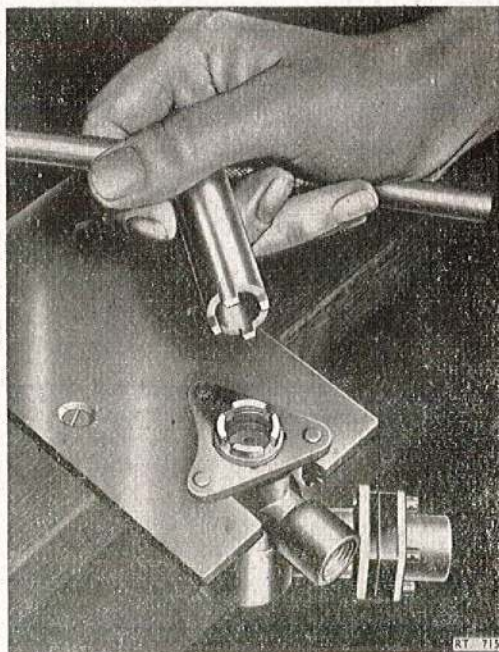
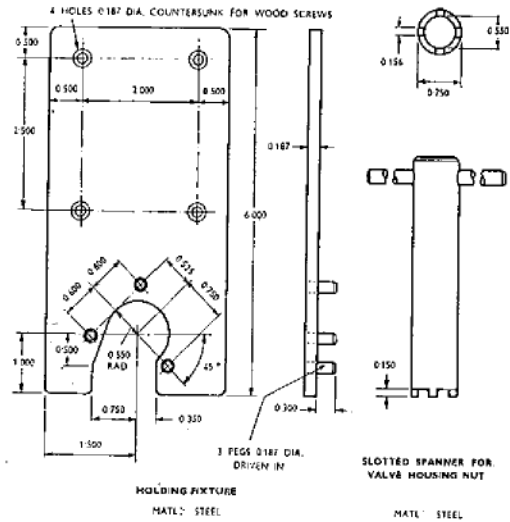

Fig. 3. Dismantling the electro-hydraulic valve
Fig. 4. Electro-hydraulic valve holding fixture
8. Fit the valve to a suitable dismantling rig as shown in fig. 3 and fig. 4, then remove the circlip, locking ring and slotted nut.
28. Connect the needle valve to the armature by the transverse pin. Place the spring in the bore of the armature and, holding the solenoid casing with the open end downwards, insert the assembly into the casing. Turn the casing over to bring the open end uppermost and fit it to the holding fixture as shown in fig. 3.